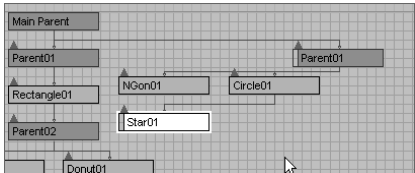

Figure 3.50
- 3. When you release the mouse button, notice that the Star01 node is linked under the Circle01 node, as shown in Figure 3.50. The Star was automatically unlinked from its old parent.